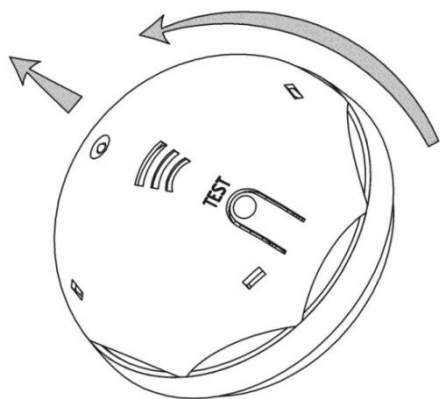

Fig. 4. Removing the smoke detector
5.4.3 Remove the smoke detector from the base by turning it counter-clockwise as in Fig. 4.